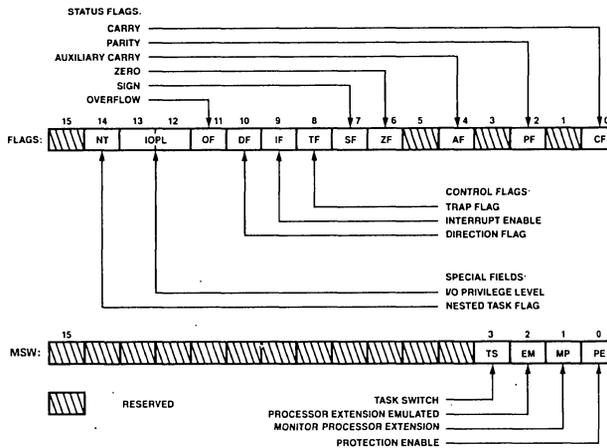

FIGURE 2. STATUS AND CONTROL REGISTER BIT FUNCTIONS
**STATUS AND CONTROL REGISTERS:** Three 16-bit special purpose registers record or control certain aspects of the 80C286 processor state. These include the Flags register and Machine Status Word register shown in Figure 2, and